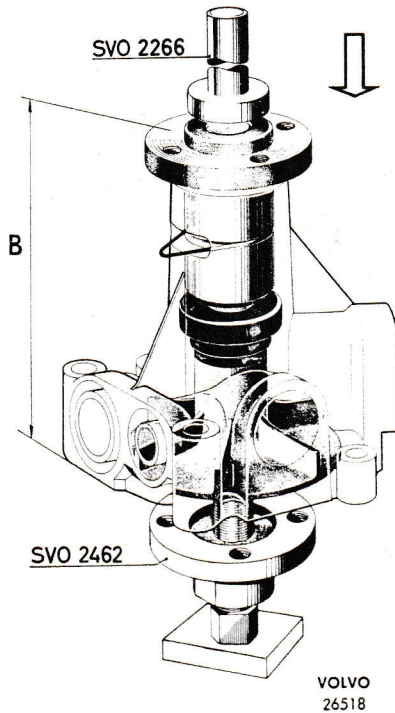

Fig. 81. Fitting the pulley
4. Turn the pump. Apply a counterhold under the end of the shaft in the impeller hole and press on the hub with tool SVO 2266. As counterhold use, for example, puller SVO 2462 with the center bolt screwed in so that it supports against the shaft. Press carefully so far that the dimension B as shown in Fig. 81 is  $4.134 \pm 0.008$ " ( $105 \pm 0.2$  mm).